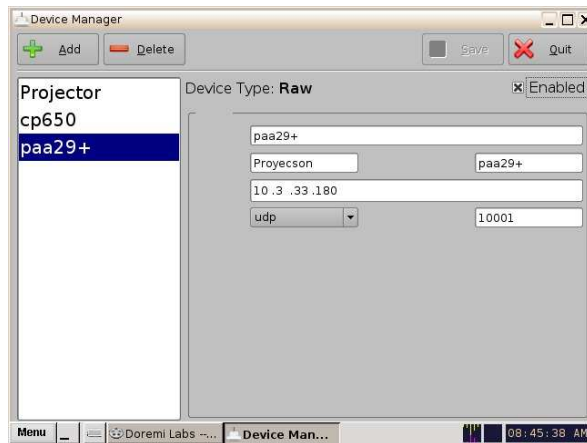

Figure 8.3.1B
9. You can see the Device Manager window with this configuration on the **figure 8.3.1B**.